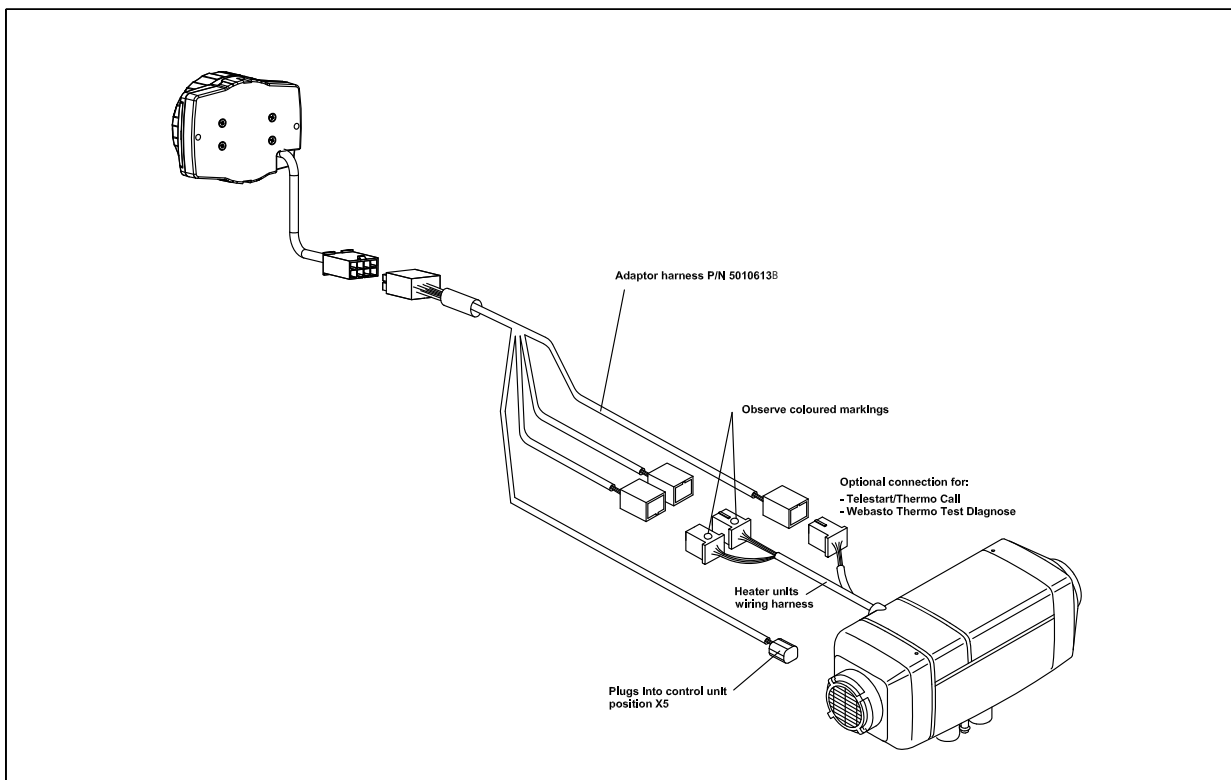

Figure 32. Air Top 40/55 EVO with SmartTemp Control - connection diagram
- Follow the electrical pin-out fig. 32 to install the supplied harness connector and harness adapters.